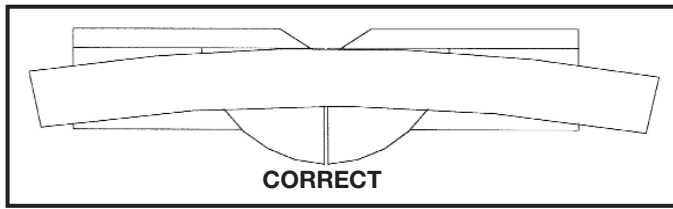

Fig. 36
1. Check the workpiece. If it is bowed, position the workpiece on the table as shown in Fig. 36.